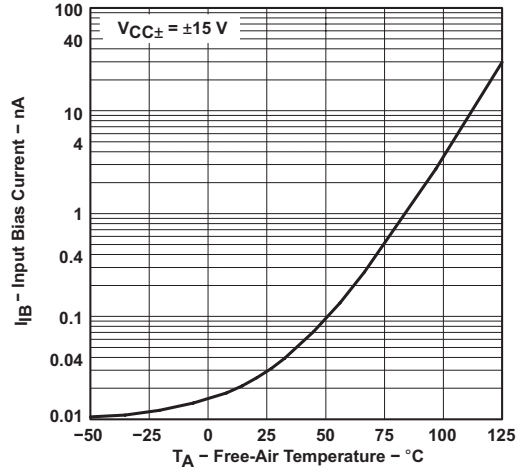

Figure 15. Input Bias Current vs Free-Air Temperature
- (1) All characteristics are measured under open-loop conditions with zero common-mode input voltage, unless otherwise specified. Full range for  $T_A$  is  $0^\circ\text{C}$  to  $70^\circ\text{C}$  for TL06xC, TL06xAC, and TL06xBC and  $-40^\circ\text{C}$  to  $85^\circ\text{C}$  for TL06xI.
- (2) Input bias currents of an FET-input operational amplifier are normal junction reverse currents, which are temperature sensitive, as shown in Figure 15. Pulse techniques are used to maintain the junction temperature as close to the ambient temperature as possible.
(1) All characteristics are measured under open-loop conditions, with zero common-mode voltage, unless otherwise specified.
(2) This parameter is not production tested.
(3) Input bias currents of an FET-input operational amplifier are normal junction reverse currents, which are temperature sensitive, as shown in Figure 15. Pulse techniques are used to maintain the junction temperature as close to the ambient temperature as possible.
Input bias current versus Free-air temperature	Figure 15